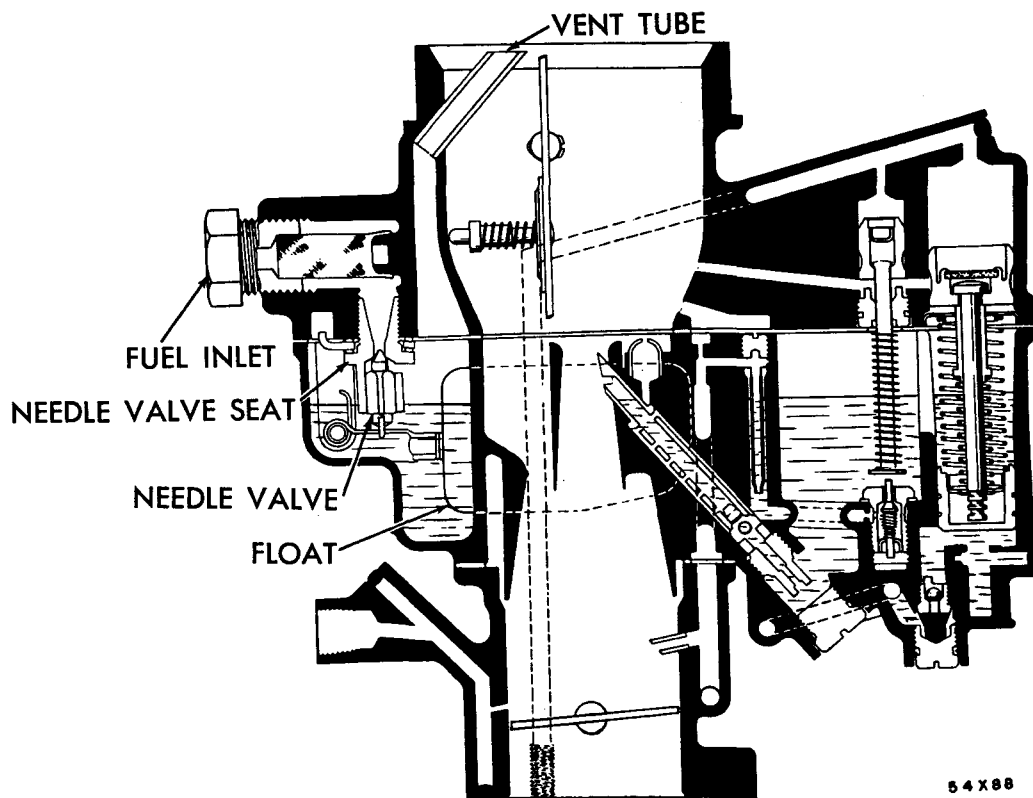

Fig. 4 — Float System
a. The Float System (refer to Fig. 4)